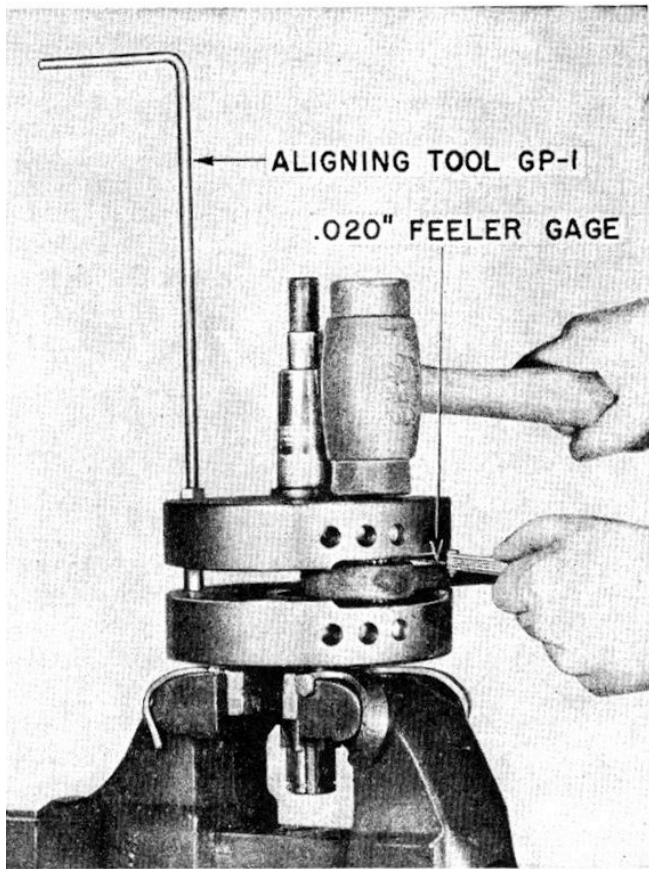

FIG. 17.—MEASURING CLEARANCE BETWEEN CONNECTING ROD AND THRUST-WASHER
f. Install the other half of crankshaft loosely on the crank pin, then insert aligning tool GP-1 in drilled holes in crankshaft. (See figure 17.)